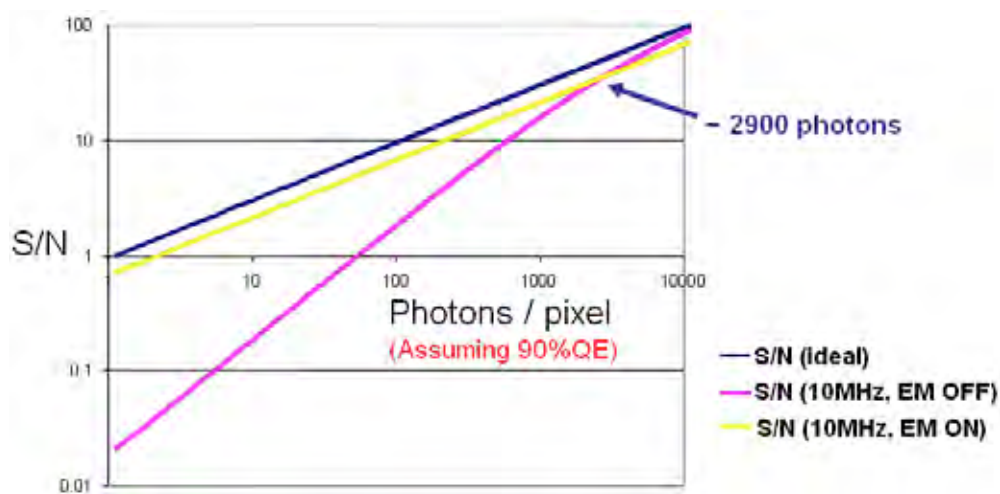

Figure 9: Signal to noise plots EM Gain ON vs. EM Gain OFF for back-illuminated iXon Ultra EMCCDs at 10MHz readout speed
Figure 9 below shows **Signal to Noise (S/N)** plots derived from the specifications of the back-illuminated iXon Ultra EMCCDs, read out at 10MHz for a photon wavelength at which the **Quantum Efficiency (QE)** of the sensor is assumed to be 90%. Such plots are very useful to gauge at what signal intensity it becomes appropriate to use EM Gain to increase S/N.